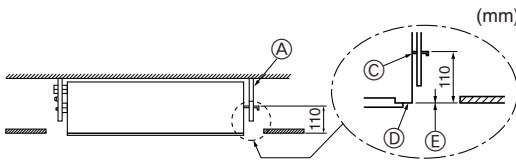

Fig. 2-9
5. Tighten all the nuts. (Fig. 2-9)
① Suspension bolt (3/8" or M10)
② Clear plastic tubing
③ Underside of bracket
④ Secure front panel here
⑤ Make these surfaces are flush with each other (0 - 3 mm)